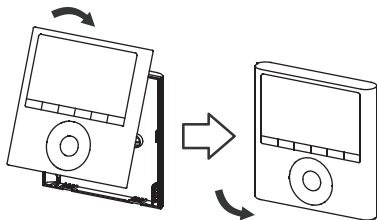

Fig. 15 – Buckle the upper case
1. While adjusting and mounting the upper case, avoid clamping the wiring during installation (see Fig 15).